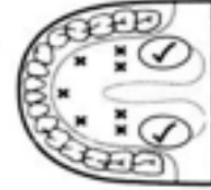

Figure 2
- a) **Oral Use:** Place thermometer under tongue as indicated by "v" position shown in Figure 2. Close your mouth and breathe evenly through the nose to prevent the measurement from being influenced by inhaled/exhaled air. Normal temperature between 35.7°C and 37.3°C.